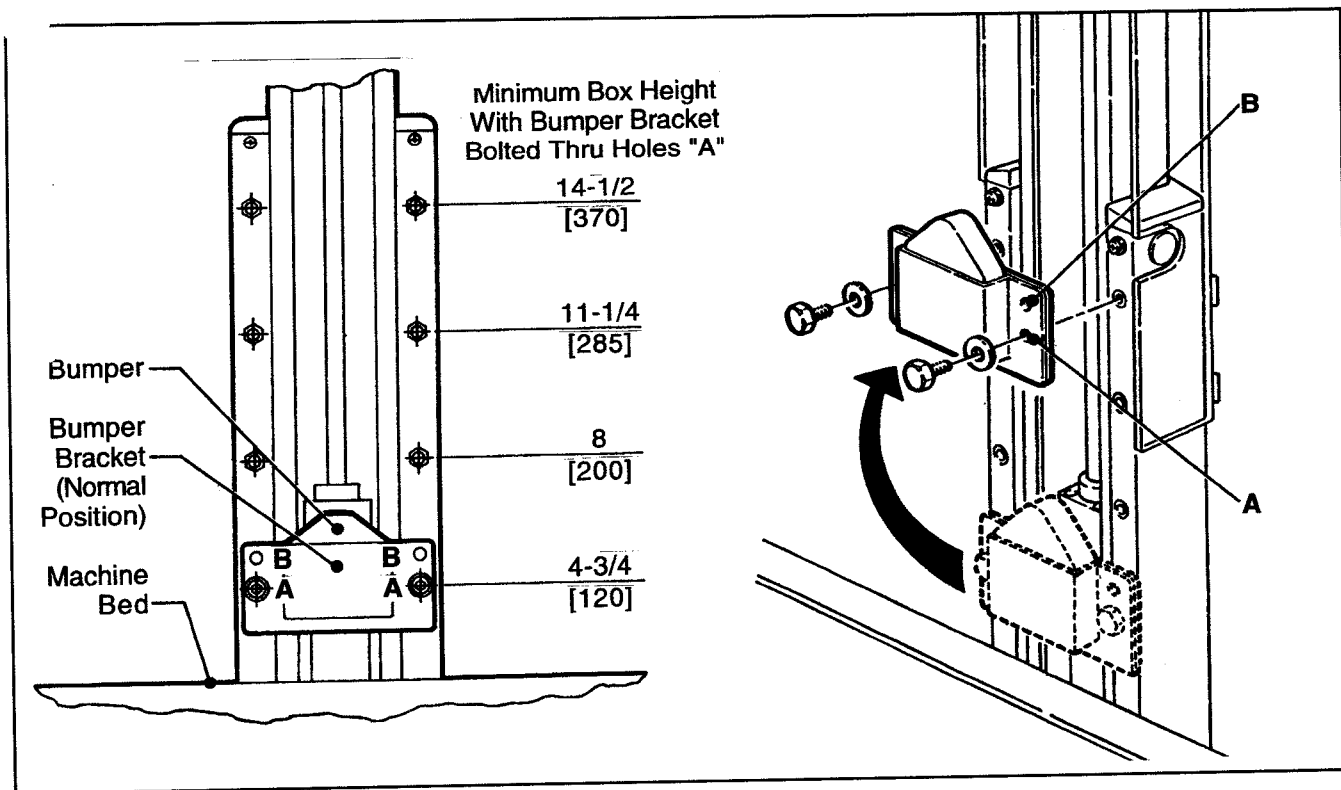

Figure 5-5 – Stop Bumpers
Box Height Range – (Refer to Figure 5-5)
The illustration in Figure 5-5 shows minimum box height with stop bumpers fastened through lower holes (A) at different levels on the side columns. If bumpers are mounted with bolts through upper holes (B), the minimum height of box in each position **decreases** by 3/4 inch [20 mm].